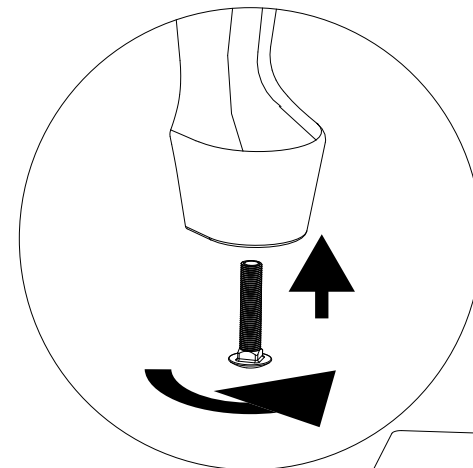

Figure 24.3
- Use leveling bolts on legs to stabilize and level appliance (**Figure 24.3**).